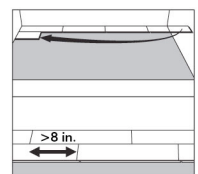

Figure 2
1. Begin the second row with the cut piece from the first row. (Figure 2) If the cut piece is shorter than 8” (20 cm), do not use it. Instead, begin with a new board that is at least 8” in length and allows 8” between the end joints on the adjacent planks.